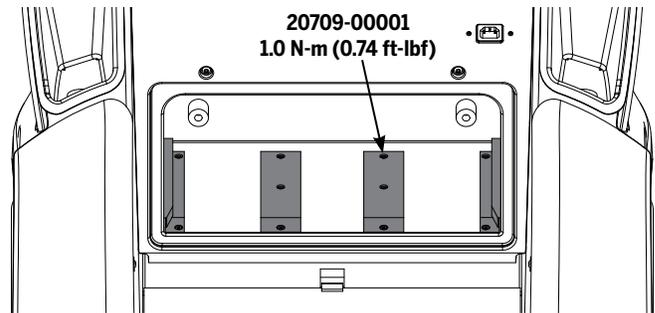

Figure 64: Battery Slides
3. Using a 2.5 mm hex wrench, remove the fasteners from the Battery Slides. See Figure 64.